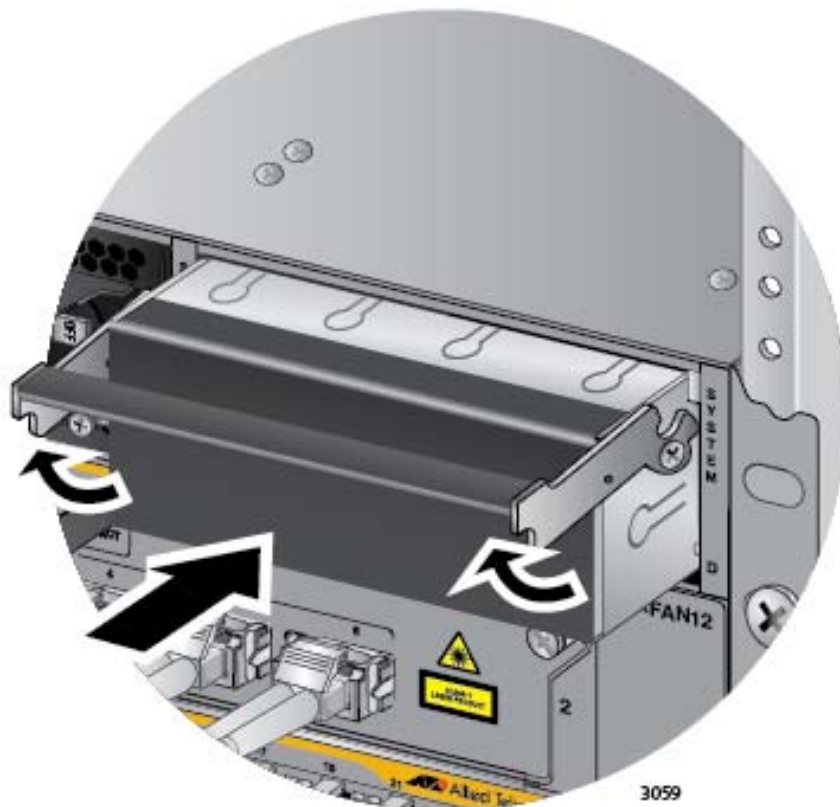

Figure 154. Installing a Blank Power Supply Slot Cover
13. Place the locking handle on the slot cover in the up position and slide the cover into the empty power supply slot. Refer to Figure 154 on page 236.